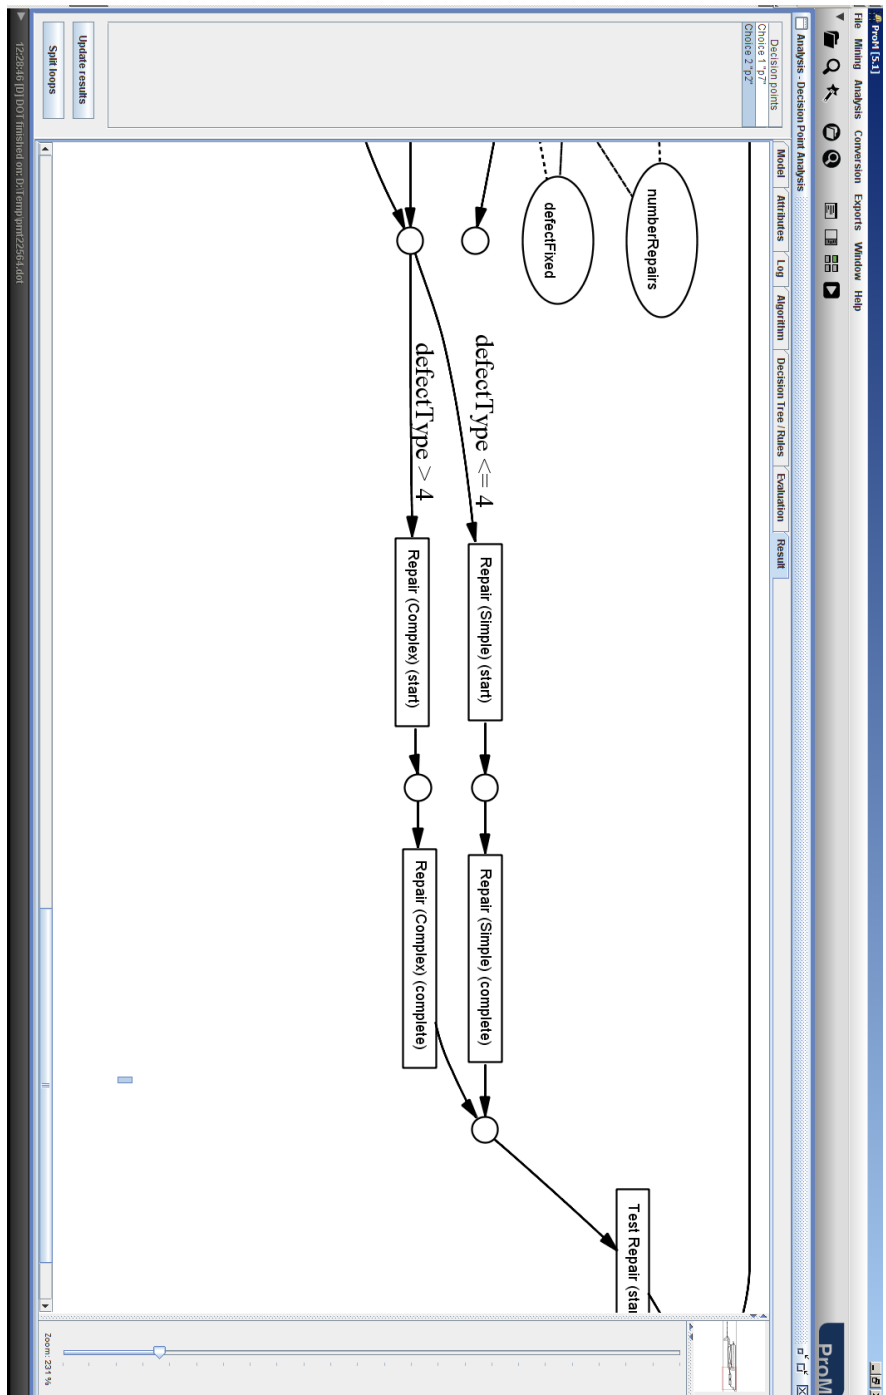

Figure 4.4: Screenshot of the analysis plug-in *Decision Point Analysis*: *Result* tab.
6. Select the tab *Result* to visualize the mined rules (cf. Figure 4.4). Note that cases with a defect types from 1 to 44 are routed to the task “Repair (Simple)” and the ones with defect type bigger than 4 are routed to the task “Repair (Complex)”. This is the rule that covers the *majority* of the cases in the log. However, it does not mean that all the cases follow this rule. To check for this, you have to perform the next step.